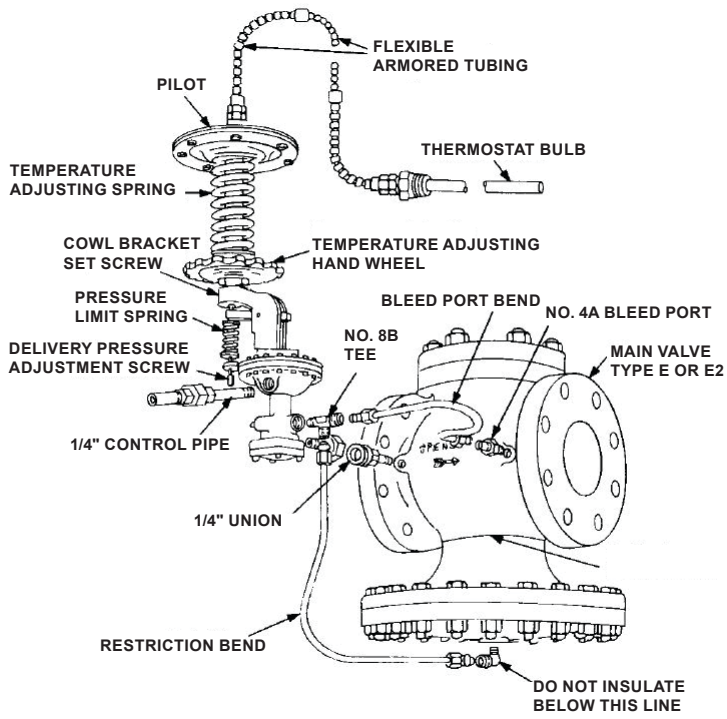
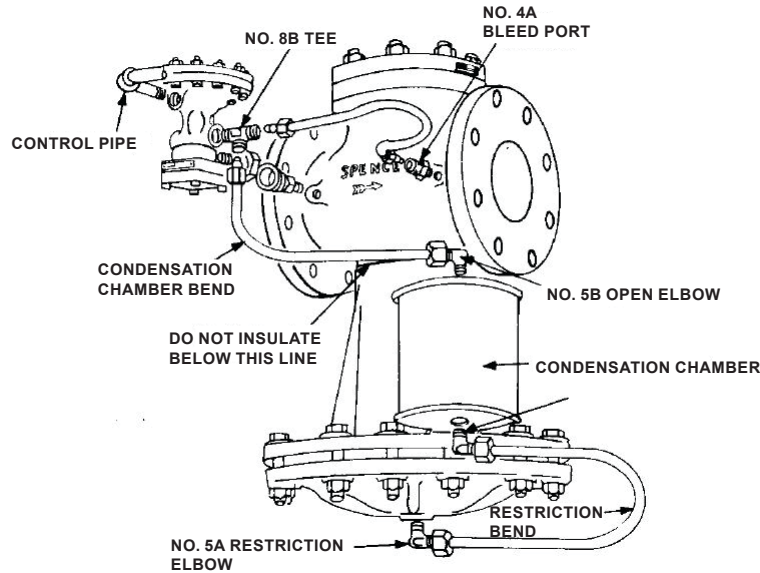

Figure 3. Type T124 Tubing Bends Connection
Figure 4. Type T124 with Valve Condensation Chamber Tubing Bends Connection
2. Connect the 1/4 in. / 6.35 mm pipe tap at the inlet side of the main valve as shown in Figure 3.
6. Connect tubing bends as illustrated in Figure 3. Valves with condensation chamber are fitted up according to Figure 4.
1. Use 1/4 in. / 6.35 mm pipe for this line which connects the pilot pressure diaphragm chamber (Figure 3) to the desired point of pressure control.